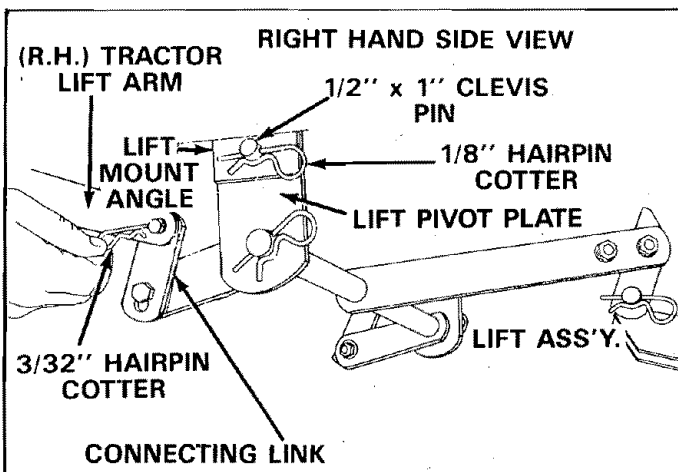

FIGURE 24
2. Refer to figure 24 below and;
Lift mount angles do not require removal for re-assembly of mower deck. See figure 24.